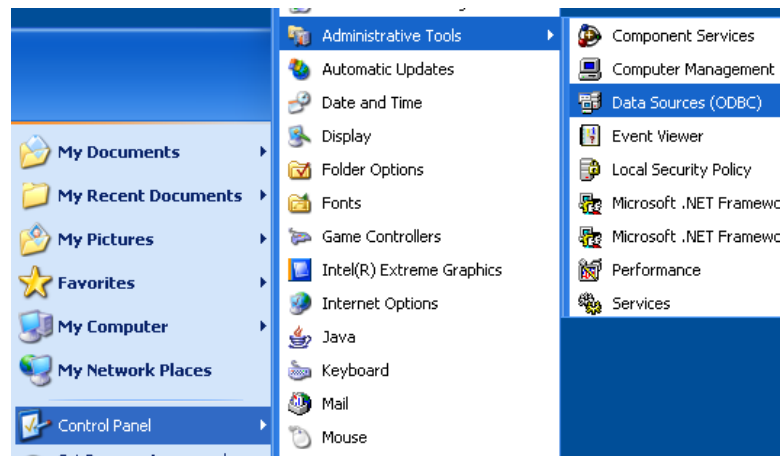

Figure 40
48. Click on Start then on Control Panel then on Administrative Tools then on Data Sources (ODBC). (Figure 40)